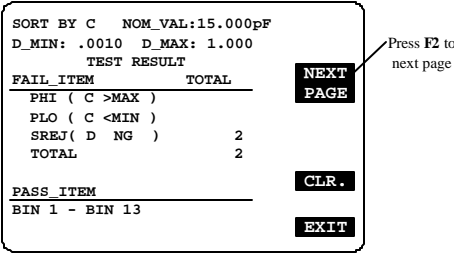

Figure 8-27
- Press F2 key to see next page of test result (Figure 8-27, 8-28).